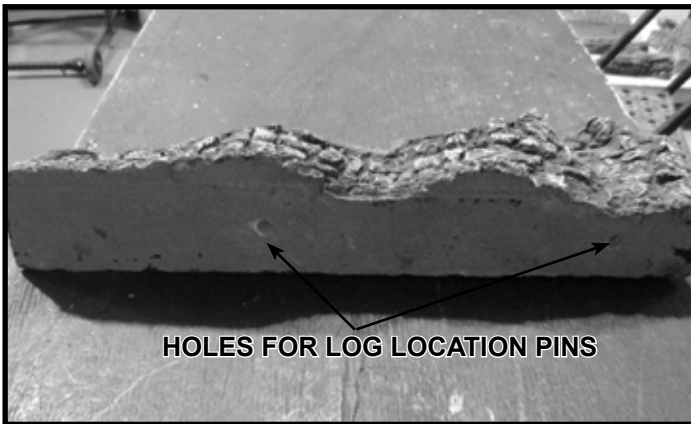
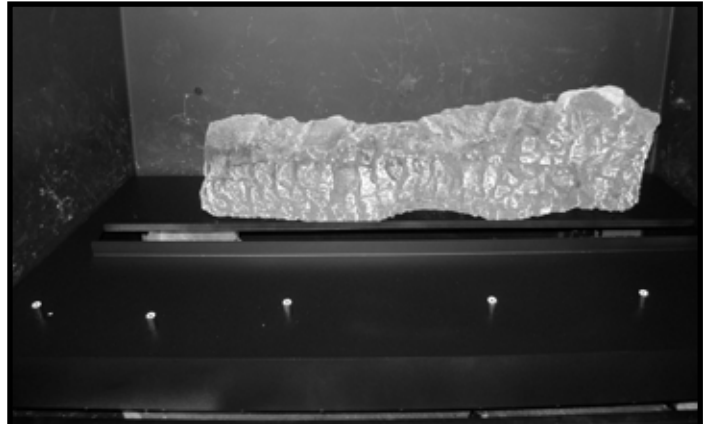

Figure 3. Log #1 - Bottom View
Figure 4. Log #1 in Position
**CAUTION:** Logs are fragile, handle with care. **Log #1 (SRV2297-700):** Place Log #1 into position by holding it upright and placing it onto the pins on the back of the basepan. See Figure 3. Log #1 will sit upright as shown in Figure 4.